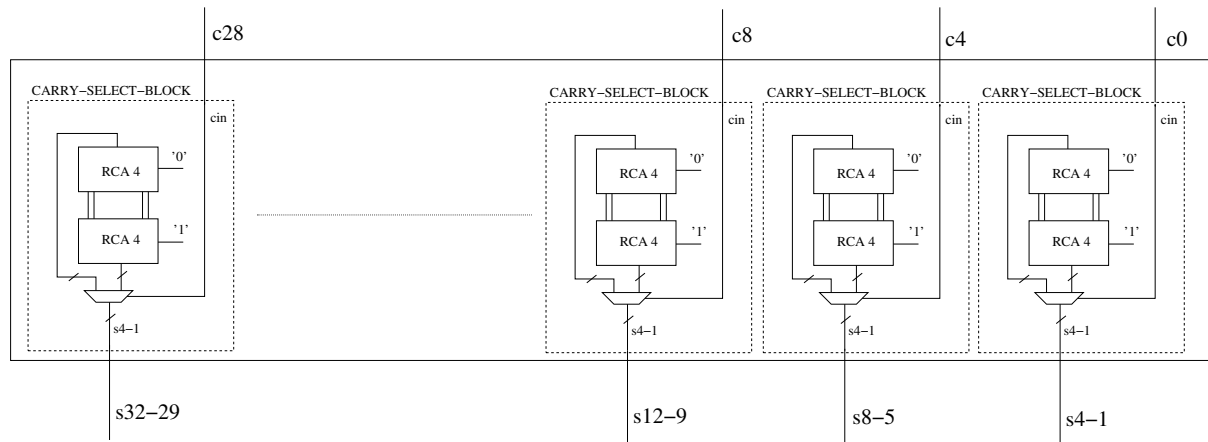

Figure 2.2: Carry Select Like structure
You will start with the design of the **Sum Generator block**, which is based on the *carry select principle*, made it easier by the absence of carry propagation. In Figure 2.2 you can observe a sketch of the whole structure.
1. Using the given Ripple Carry Adder, build a higher level block which implements a parametric CARRY SELECT BLOCK architecture (shown in Figure 2.2).
Starting from your Carry Select block, you can describe the *carry select-like* Sum Generator shown in Figure 2.2. It is suggested to: